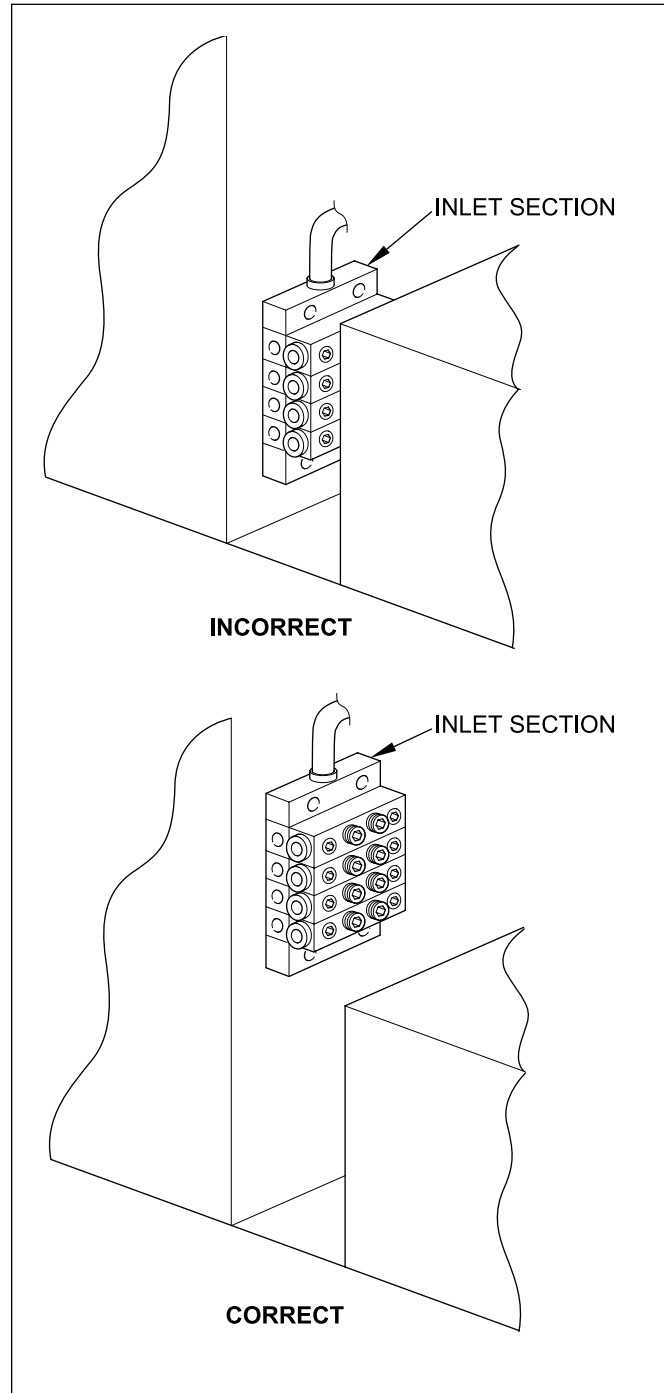

Figure 5
- Avoid locating the divider valve assembly in locations that restrict access to it. The ports on the front of the divider valves should be accessible for prefilling and purging procedures (see Figure 5).